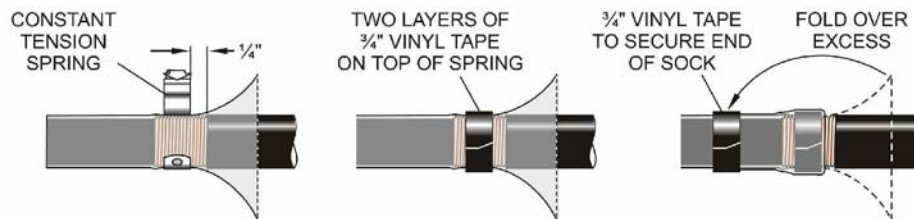

FIGURE 7
STEP 28: WRAP ONE OF THE CONSTANT TENSION SPRINGS OVER THE GROUND SOCK AND LC SHIELD 1/4" FROM THE JACKET CUTBACK AS SHOWN IN FIGURE 7 PULL THE FINAL WRAP OF THE SPRING TO INSURE A TIGHT CONNECTION.
STEP 29: TIGHTLY WRAP THE CONSTANT TENSION SPRING WITH TWO LAYERS OF 3/4" VINYL TAPE. BE CERTAIN TO WRAP THIS TAPE IN THE SAME DIRECTION AS THE WRAP OF THE SPRING. SEE FIGURE 7.
STEP 30: FOLD THE EXCESS END OF THE GROUND SOCK BACK OVER THE CONSTANT TENSION SPRING AND INTO CONTACT WITH THE MIDDLE PORTION OF THE SOCK. SECURE THIS END BY WRAPPING THEM WITH 3/4" VINYL TAPE. SEE FIGURE 7.